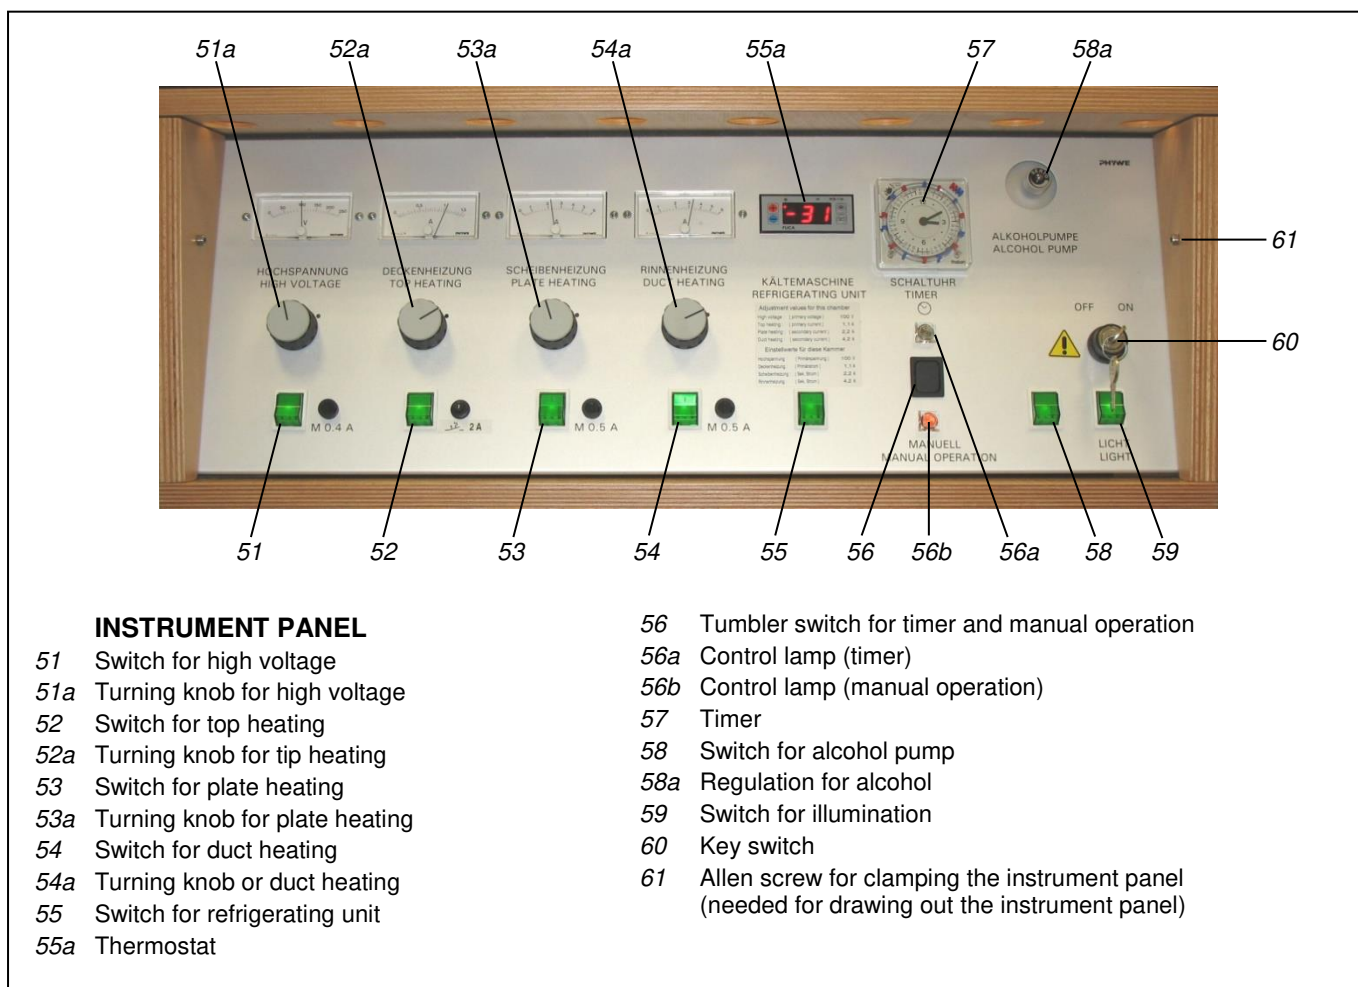

Fig. 5: Instrument panel of the diffusion cloud chamber 09043-93.
3. Switch on all rocker-actuated switches (51, 52, 53, 54, 55, 58 and 59), see Fig. 5.
Set the timer (57, Fig. 5) to the wanted switching symbol (see the enclosed operating instructions from the manufacturer of the timer) and switch the rocker-actuated switch (56) to "up". The indicator lamp (timer) lights up. The key-operated switch must always remain switched on when the timer is in use (the key can be removed).
If there is a fault in the electrics, the instrument panel (10) can be drawn out by about 30 cm, but before doing this, interrupt the supply of power to the chamber (**unplug the mains plug**) and screw out the Allen screws (61, Fig. 5) to take the side covers off.